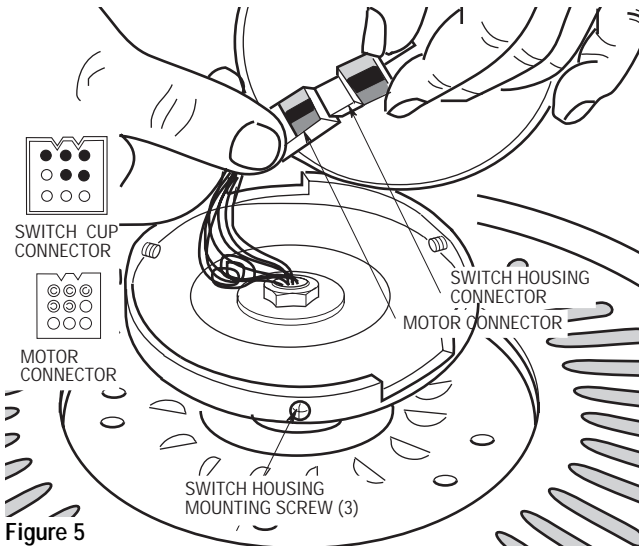
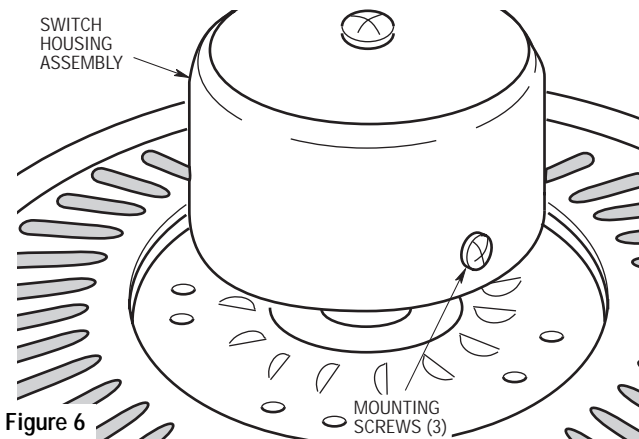

Figure 5
Figure 6
6. Engage the connector of the switch housing assembly with the motor connector (Figure 5). The two connectors are keyed and color-coded and must be mated correctly (color-to-color) before they can be engaged. Make sure the connector latch closes properly.
- 7. Remove the three switch housing mounting screws (Figure 5) from the switch housing plate. Position the switch housing assembly on the switch housing plate and align the holes in the switch housing assembly with the holes in the plate. Secure the switch housing assembly by installing the three screws (Figure 6).
- 1. After electricity has been turned off at the main fuse box, remove the switch housing assembly by removing the three mounting screws (See Figure 6).
- 5. Install the receiver in the switch housing, push the motor connector into the switch housing connector and assemble the switch housing assembly to the housing plate (See Figures 5 and 6).